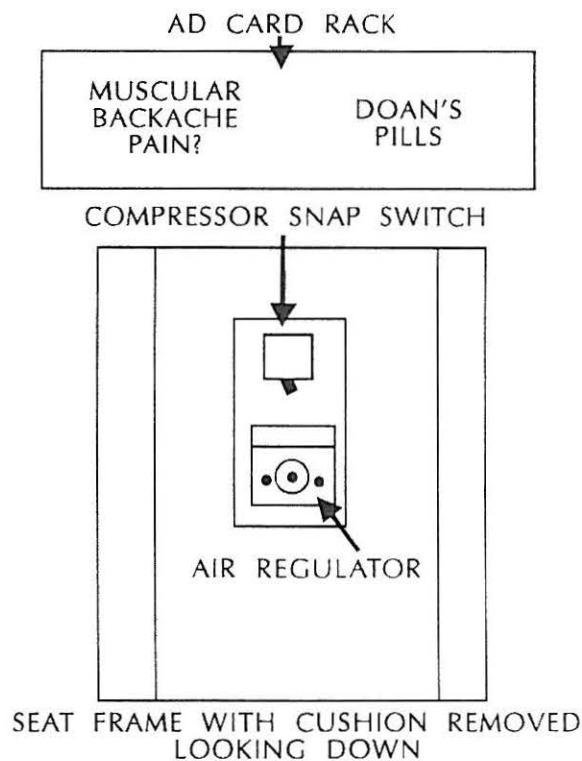

Figure 18. Compressor Switch Location
7. Be sure the air compressor switch (figure 18) is turned **on**. It is inside the car, under a seat, about 3/5 of the way back from the "A" end of the car, and on the left as you face the "A" end. Remove the seat cushion and examine the snap switch. If it is not **on** it must be turned **on** to run the car.